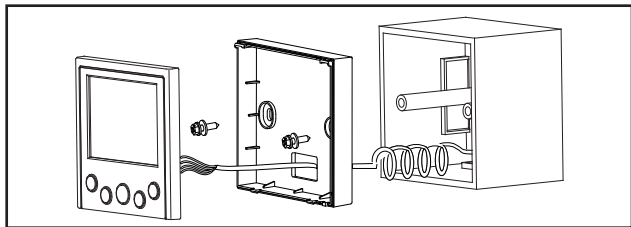

Figure 3. Installation
3. Adjust the length of the two plastic spacers as needed to allow the controller to be mounted flush with the wall. **NOTE** – *Be sure to provide for future maintenance by allowing enough slack in the wiring to allow the controller to be removed from the wall if needed.* See Figure 3.
4. Attach the back cover using factory-provided screws or other fixing method as appropriate for the application. See Figure 3.